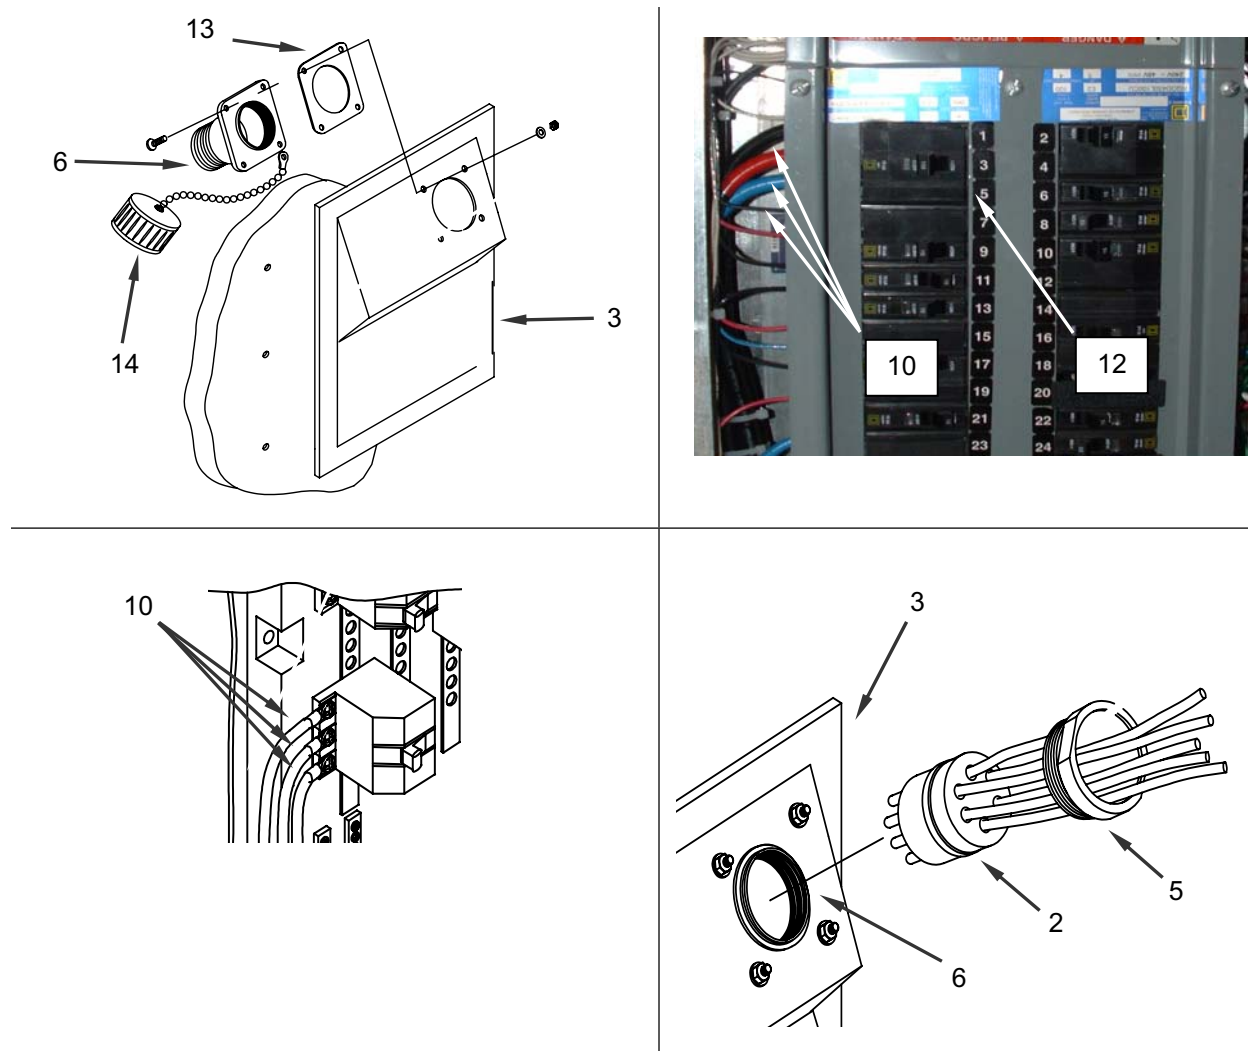

Figure 4. Replace the Power Input Receptacle.
6. Remove screws, washers and nuts securing the connector sleeve (**Figure 4, Item 6**), gasket (**Figure 4, Item 13**) and dust cover (**Figure 4, Item 14**) to the power panel (**Figure 4, Item 3**).
7. Tag and disconnect the wires (**Figure 4, Item 10**) from the main circuit breaker (**Figure 4, Item 12**), if replacing the main power input connector, or from the dryer circuit breaker if replacing one of the dryer circuit breakers.
8. Install the replacement connector sleeve (**Figure 4, Item 6**), gasket (**Figure 4, Item 13**) and dust cover (**Figure 4, Item 14**) to the power panel (**Figure 4, Item 3**).
9. From the rear of the power panel (**Figure 4, Item 3**), push the replacement receptacle (**Figure 4, Item 2**) into the sleeve (**Figure 4, Item 6**) and secure with the retainer (**Figure 4, Item 5**).